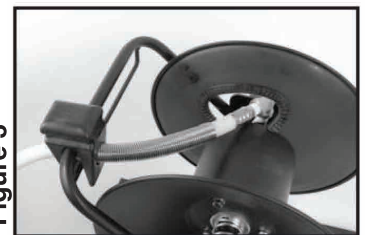

Figure 3
4. Place the hose layering guide onto the hose layering bracket, see Figure 3, also refer to Figure A illustration on page 1.
5. Place end of hose through hose layering guide. Now place spring onto that same hose end. See Figure 3
6. Apply thread tape on the hose end fitting that has the spring. Now securely tighten the hose end with spring onto the 90° brass elbow fitting, see Figure 3.